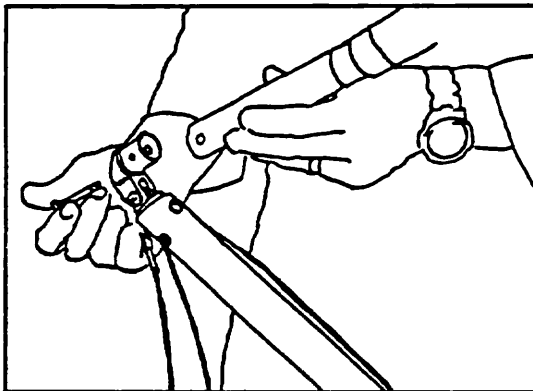

Figure 6
3) Lift the control bar and attach the basetube to the upright, using the bolt, wingnut and safety provided. (Figure 6 & 7) **Make sure that the aluminum fitting is fully inserted into the basetube, and that the bolt is through both the basetube and the fitting. If the hole in the fitting can be seen outside the end of the basetube, the fitting is not fully installed, and will likely disengage in flight resulting in a dangerous structural collapse and loss of control of the glider.**